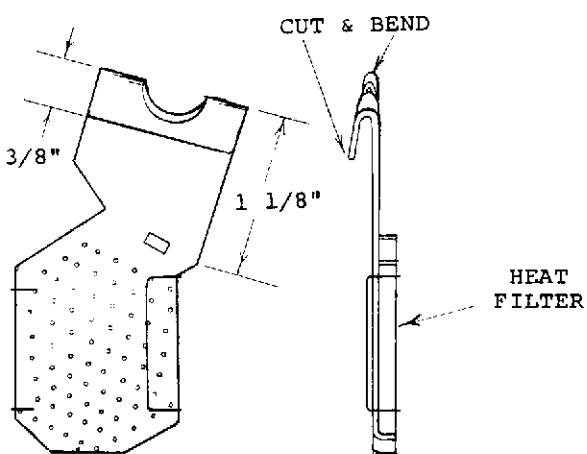

Figure 4-12. MODIFIED SAFETY SHUTTER (42994-GI)
- e. Modify a discarded 42994-G1 Safety Shutter as shown in (Figure 4-12). (A Similar heat filter may be used).